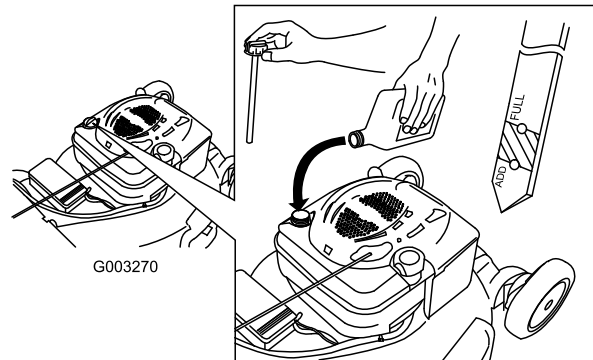

**Figure 35**
7. Tip the machine onto its side, with the oil-fill tube down, to drain the used oil out through the oil-fill tube into the oil-drain pan (Figure 35).